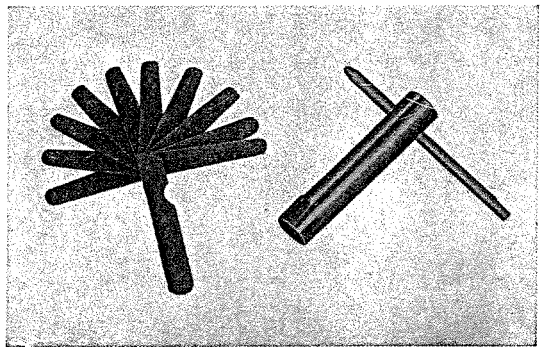

Fig. 6.14 Tools required for spark plug adjustment
- a. Tools required for spark plug adjusting. (Refer to Fig. 6.14)